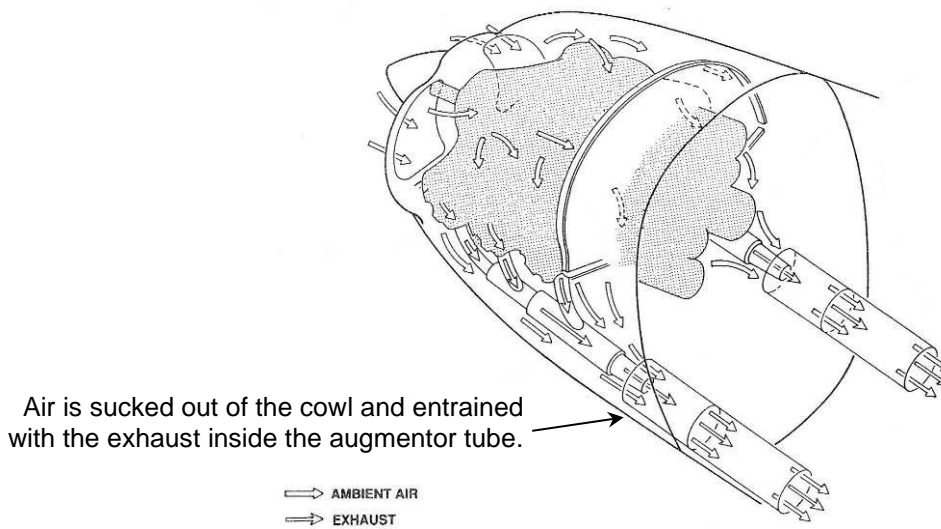

Figure 58. Augmentor Exhaust System
- Augmentor type exhausts (Figure 58) can also be used to suck air out of the cowlings.
- For amphibian or seaplane aircraft using a pusher engine installation the methods outlined above can use the propeller to suck air out of the cowls, but ultimately the effect is limited and can conflict with cooling requirements in other modes of flight. For these installations some form of active venting for the cowls – such as flaps, fans or an augmentor-type exhaust system (See Figure 58) may be required.